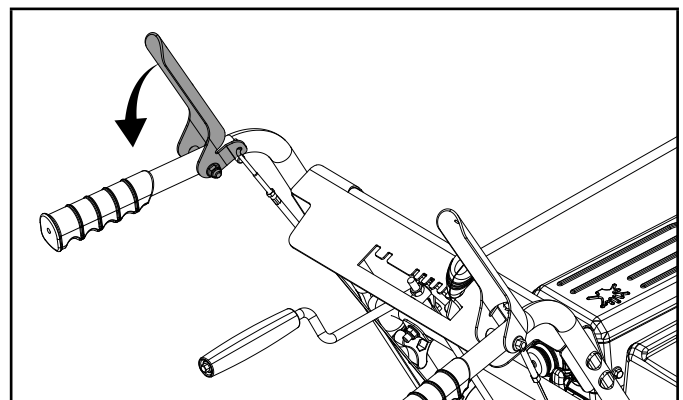

Figure 37
12. Pull the auger control handle to ensure the idler pulley is properly engaging the belt (Fig. 37). Under the belt cover area, make sure the distance on both sides between the guide and pulley is the same.